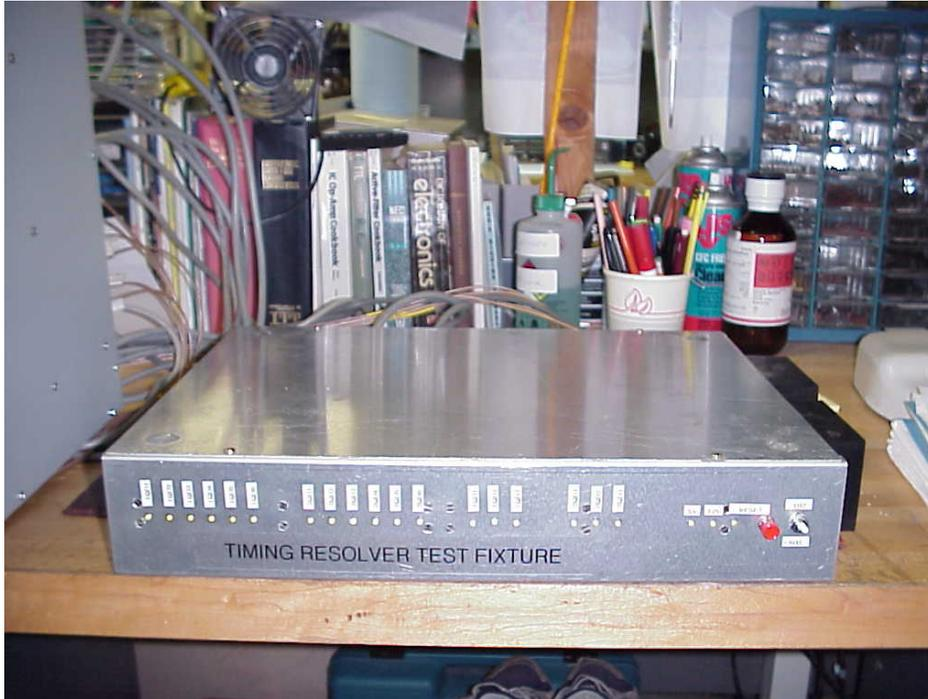

Figure 1
- 1) Timing Resolver Test Fixture. See **Figure 1**.